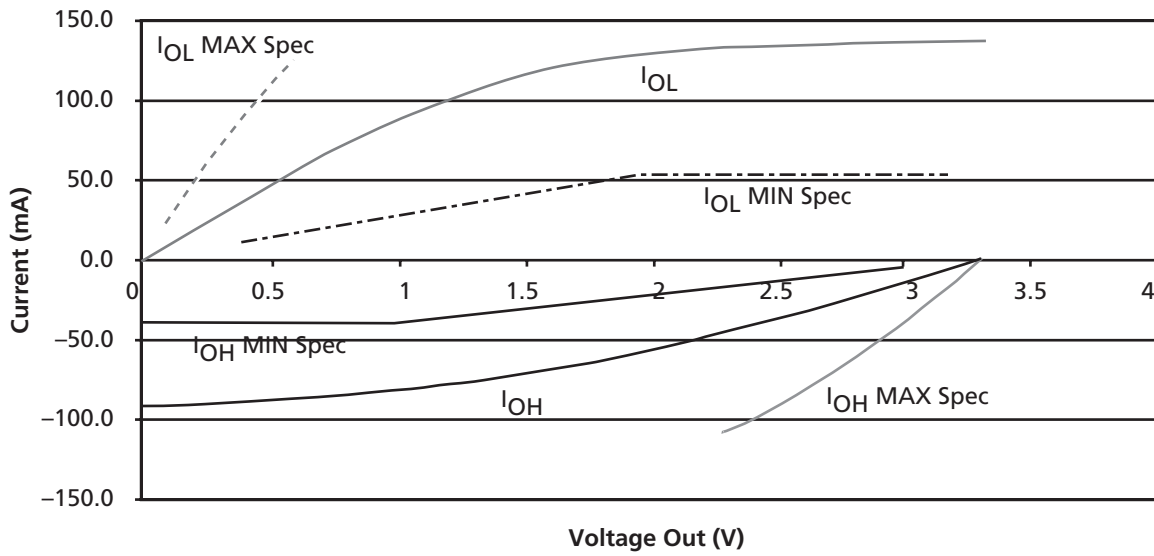

Figure 1-13 • 3.3V PCI V/I Curve for Automotive-Grade SX-A Devices
1. Refer to the V/I curves in Figure 1-13 on page 1-15. Switching current characteristics for REQ# and GNT# are permitted to be one half of that specified here; i.e., half size output drivers may be used on these signals. This specification does not apply to CLK and RST#, which are system outputs. "Switching Current High" specifications are not relevant to SERR#, INTA#, INTB#, INTC#, and INTD#, which are open drain outputs.
2. Maximum current requirements must be met as drivers pull beyond the last step voltage. Equations defining these maximums (C and D) are provided with the respective diagrams in Figure 1-13 on page 1-15. The equation defined maximum should be met by design. In order to facilitate component testing, a maximum current test point is defined for each side of the output driver.
Figure 1-13 shows the 3.3V PCI V/I curve and the minimum and maximum PCI drive characteristics of the automotive-grade SX-A devices.